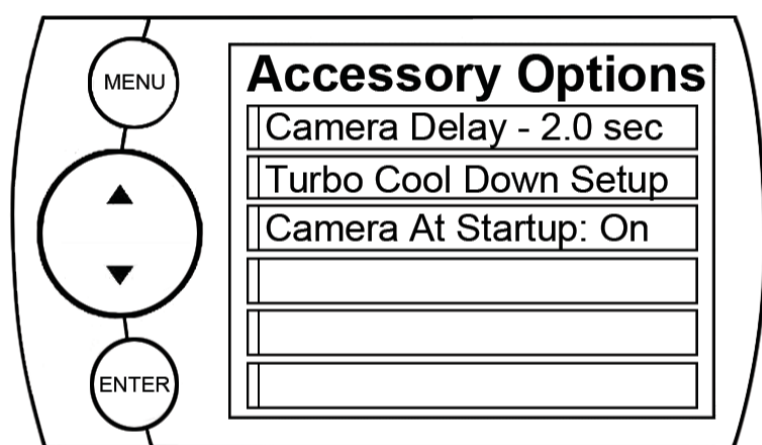

Figure 21
*NOTE: Figure 21 depicts the programming level options for a GM product. If you have another make such as Ford or Dodge, you will notice that the levels available for your vehicle will vary from the GM options. For example, if you own a 97-09 F150, the economy level option is not available and cannot be added.*